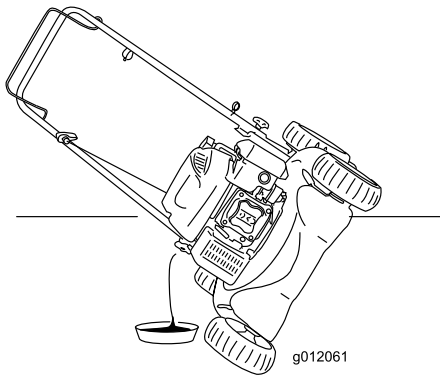

Figure 19
5. Tip the mower onto its side, with the dipstick down, to drain the used oil out through the oil fill tube (Figure 19).